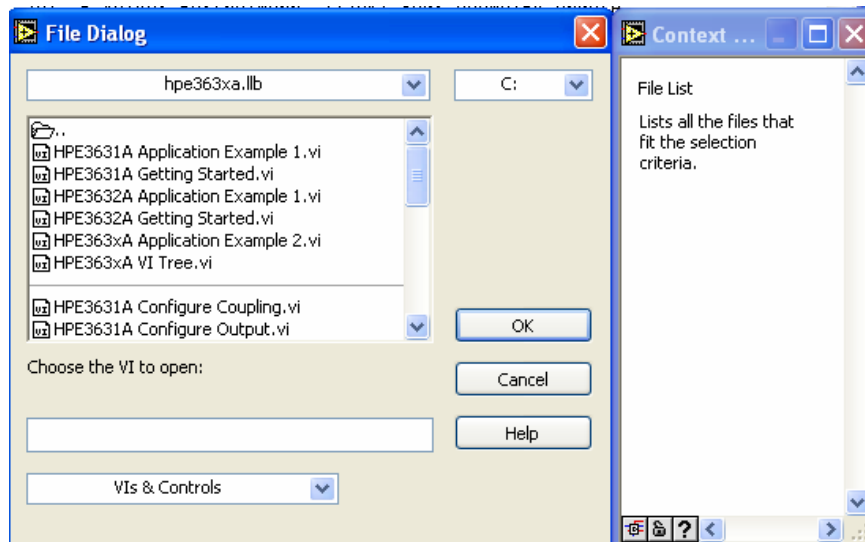

Figure 10. Choose the HP3631A Getting Started VI
3. Double click on the *hpe363xa* file. Two dialogs (refer to figure 10) will pop up.